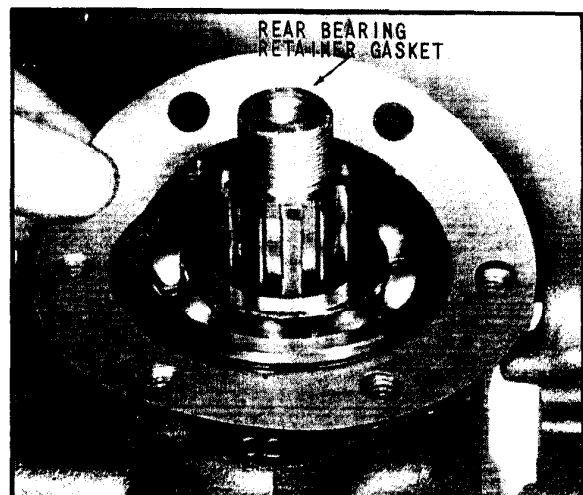

Fig. 30 Bearing Retainer Gasket in Place
13. Place bearing retainer gasket on rear of transmission case as shown in (Fig. 30). Gasket may be coated with petroleum jelly for easier assembly.